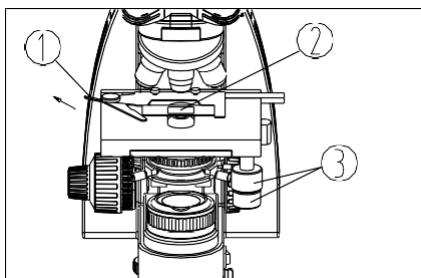

Fig. 13
- (1) Push the wrench① of the specimen holder backwards.
- (2) Place the slide② into the clip, loosen the wrench① and clamp the slide. Make sure the specimen faces up, while there is a cover glass, make sure the cover glass face up (see Fig. 13).
- (3) Rotate the X and Y-axis knob③ of the stage, and move the specimen center into the light path.